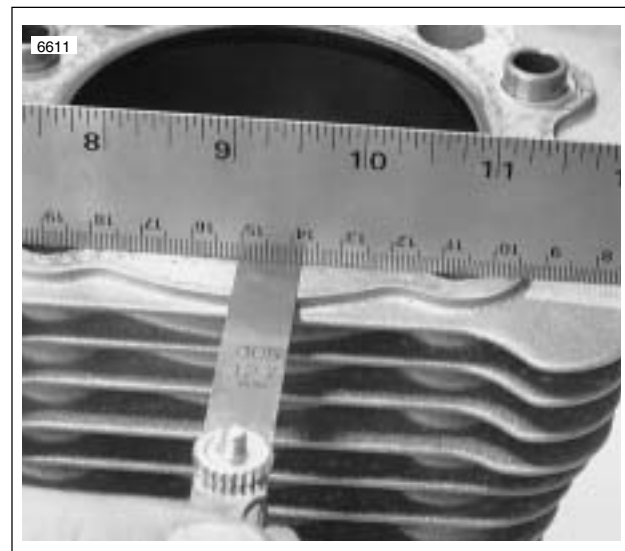

Figure 3-33. Checking Gasket Surfaces
1. See Figure 3-33. Check cylinder head gasket surface for flatness.